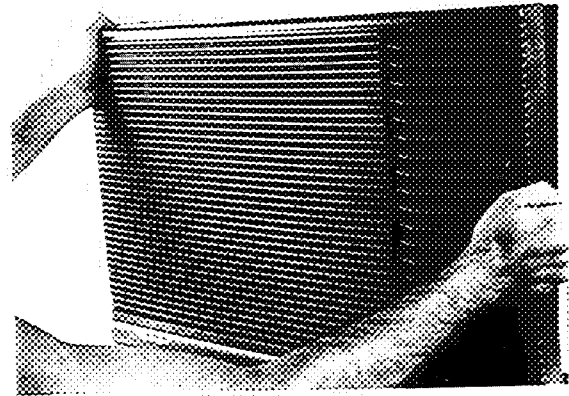

Fig. 3 – Removing Front Grille
2. Pull grille out and upward, removing it from chassis. See Fig. 3.